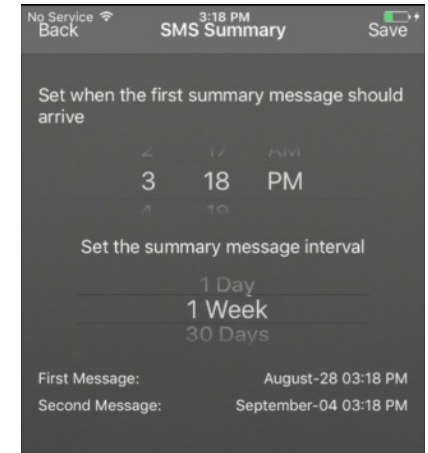

Fig. 6
8. Summary Interval – The interval at which the ELSMS device will send you information regarding its status. (See Fig. 6).